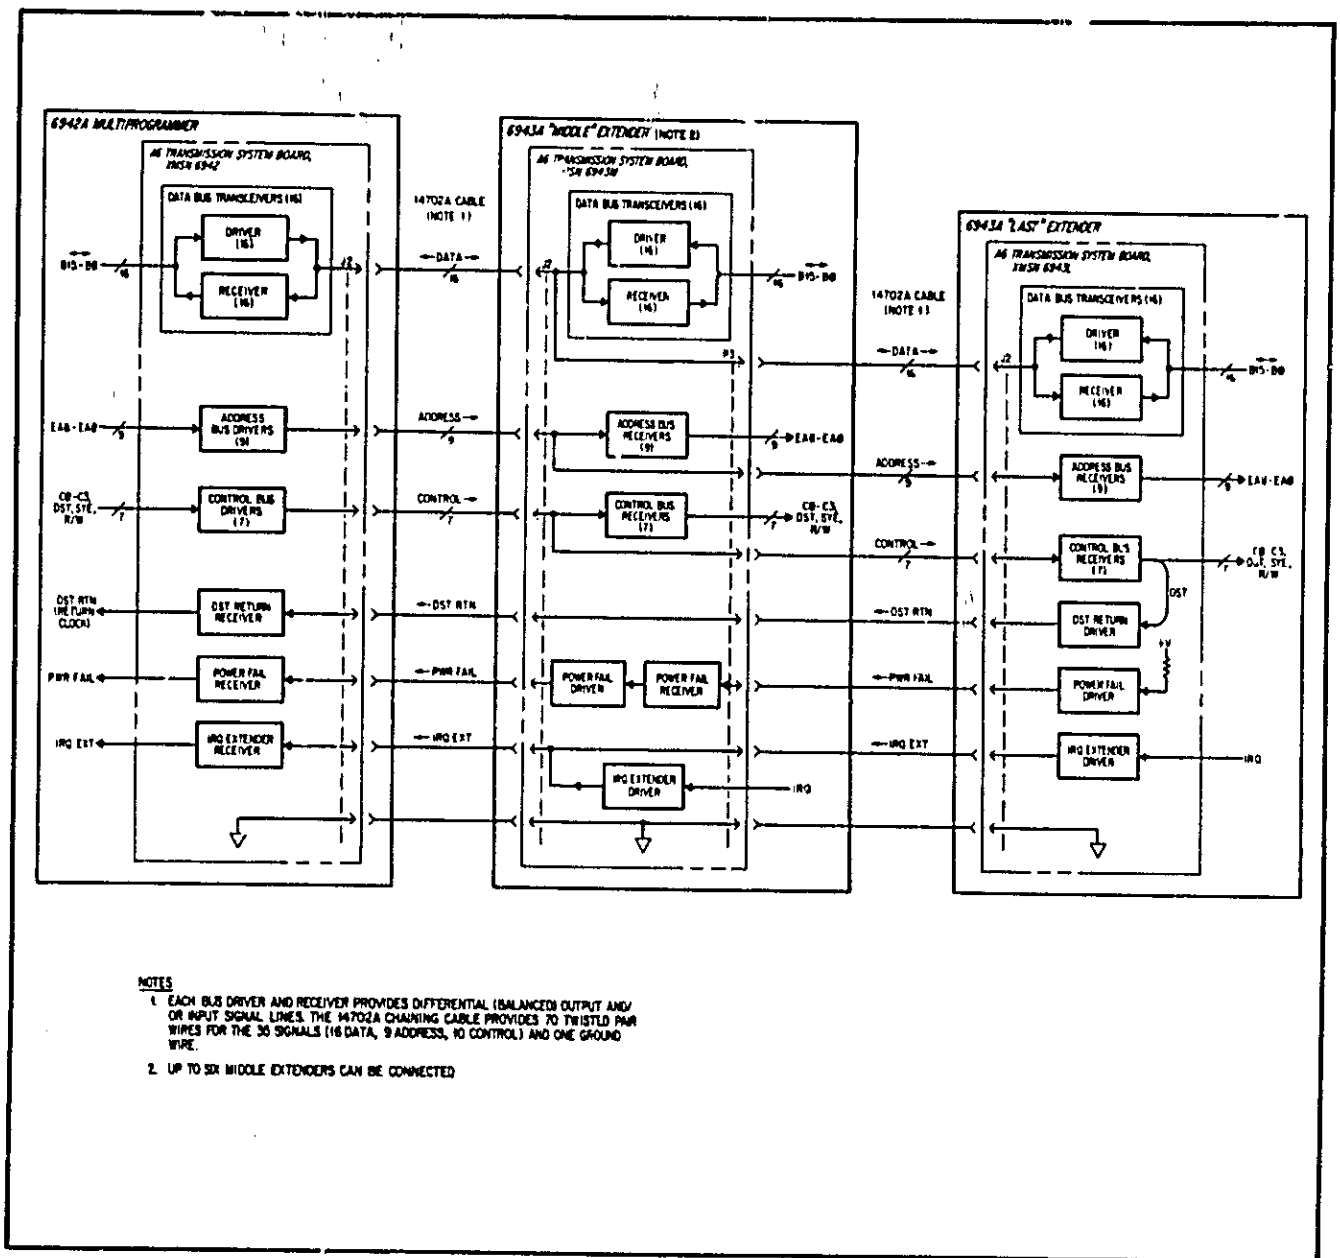
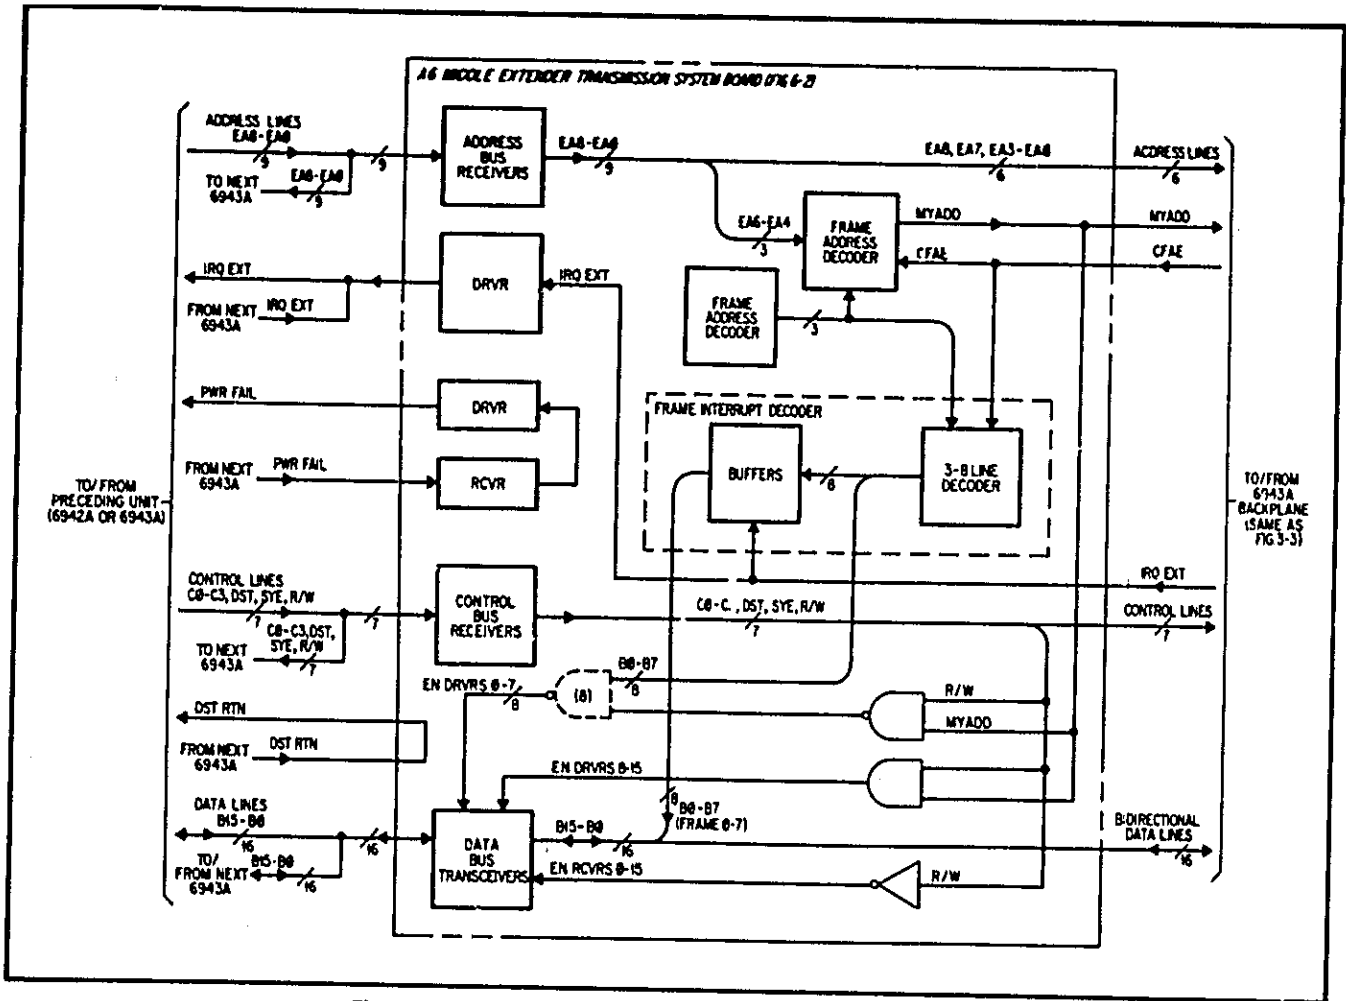

Figure 3-2. 6942A/6943A Transmission System, Signal Flow Diagram
Figure 3-4. Middle Extender Board, Block Diagram
3-10 Figure 3-2 illustrates the signal flow through the transmission system boards in a three unit Multiprogrammer System (one 6942A and two 6943A units). The diagram illustrates the transceivers, drivers, and receivers on each board as well as the data, address, and control signal lines between each board.
3-12 Data is transferred between the 6942A and the I/O cards installed in the 6943A units via data bus transceivers on the transmission system boards. Each transceiver consists of a three-state differential (balanced) — output line driver and a differential-input line receiver. The driver inputs and receiver outputs are TTL compatible. When the CPU in the 6942A writes data to an extender unit, the 16 data bus drivers in the 6942A and the 16 data bus receivers in the addressed 6943A extender unit are enabled transferring the data on lines B15-B0 from the 6942A to the addressed 6943A. When the CPU reads data from an extender unit, the 16 data bus receivers in the 6942A and the 16 data bus drivers in the addressed 6943A are enabled transferring the data on lines B15-B0 (LSB) from the addressed 6943A to the 6942A. Note in Figure 3-2 that the "Middle" Extender's transmission system board is equipped with two edge connectors, designated J2 and P3. The 14702A
3-18 Each time the data strobe (DST) control signal is generated it is sent out and returned (return clock signal) via the DST Return driver circuit on the "Last" extender and direct wiring on the "Middle" extender(s) as shown in Figure 3-2. The DST RTN (or return clock signal) is received by a differential line receiver on the 6942A's transmission system board. The return signal indicates that the backplane is ready for another I/O card control sequence. DST RTN also verifies the transmission path (cable connections) from the 6942A through all 6943A extenders in the system. (See paragraph 3-60 in 6942A Service Manual).
3-20 The EXT PWR FAIL (Extender Power Failure) signal is sent back to the "Middle" 6943A as shown in Figure 3-2. The signal is received by a differential line receiver on the 6942A. If any 6943A has its power removed after a normal system turn-on, the return signal is removed and the CPU in the 6942A detects an extender power failure (see paragraph 3-60 in 6942A Service Manual).
3-39 Figure 3-4 illustrates the major circuits on a Intermediate (or Middle) Extender Transmission System Board, HP Part No. 14701-60020. This board is obtained by ordering the Intermediate Extender Kit HP Part No. 14701A (see Table 1-3). Complete circuit details are shown on the functional schematics of Figures 6-2 and 6-3 in the rear of the manual. The "Middle" extender board performs the same functions as the "Last" extender board with the following exceptions:
2. The power fail signal is returned to the 6942A or to a preceding 6943A "Middle" unit via a receiver/driver combination as shown in Figure 3-4. Refer also to the signal flow diagram of Figure 3-2.
3. The data strobe return (DST RTN) signal is returned to the 6942A or to a preceding 6943A "Middle" unit via direct wiring as shown in Figures 3-4 and 3-2.